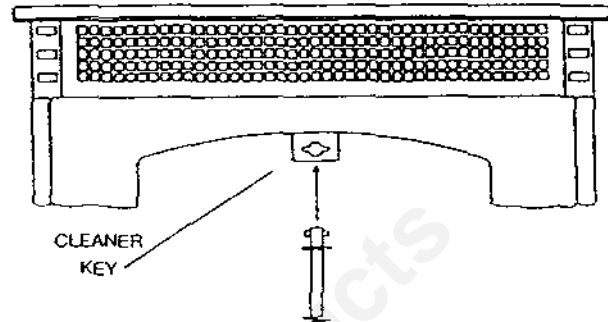

FIGURE 10
- The stove is designed with a built in heat exchange tube cleaner. This should be used every two or three days to remove accumulated ash on the tubes, which reduces heat transfer. Insert tool in cleaner key (see figure 10). Twist, move backwards and forwards several times. Leave key at front of stove.
- Three (3) cover plates in the firebox can be removed for periodic cleaning. The one on each side of the firebox allows access to vacuum ashes in the chamber surrounding firebox. The cover plate on the rear firebox wall allows access to the combustion blower.